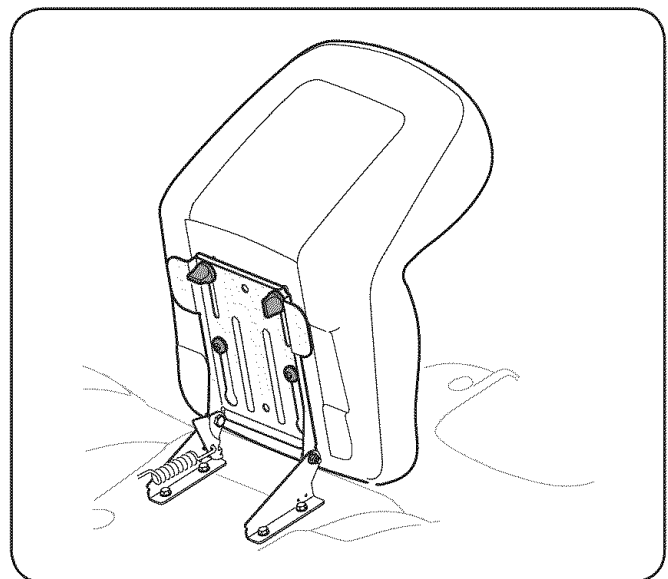
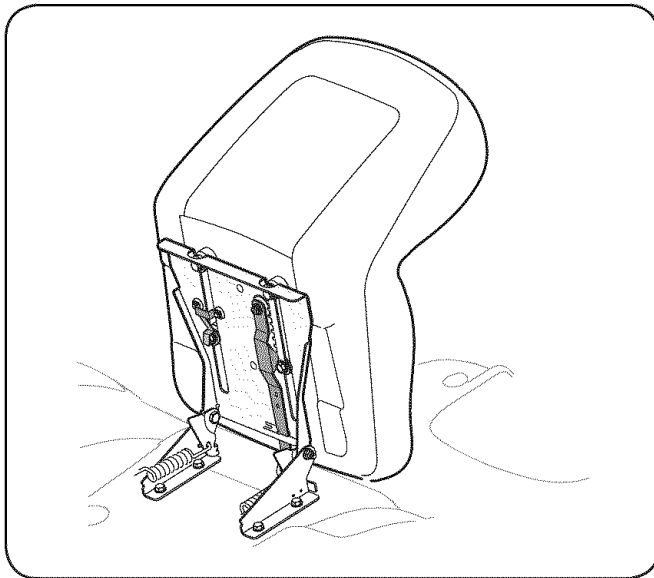

Figure 3-5
Figure 3-6
If the seat for your tractor was not attached at the factory, refer to Fig. 3-4, Fig. 3-5, and Fig. 3-6 to identify your tractor’s seat style and follow the applicable instructions below to attach it.
1. Position the shoulder screws (found on the base of the seat) inside the slot openings in the seat pivot bracket. See Fig. 3-5.
- Select desired position for the seat, and secure with the two knobs removed earlier. See Fig. 3-5.
**NOTE:** If your seat was shipped mounted backwards on the seat pivot bracket, pull out the tab found on the seat stop and hold it open while sliding the seat off the seat pivot bracket. See Fig. 3-6.
- Slide seat in until front seat spacer engages the seat stop. See Fig. 3-6.